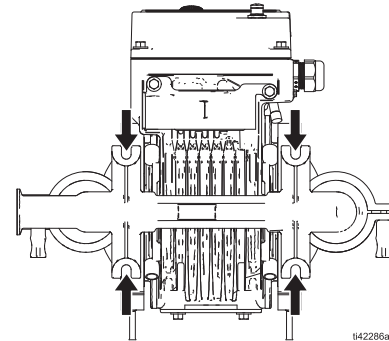

FIG. 6: Mounting Holes
The pump may be very heavy (see Technical Specifications, starting on page 67, for specific weights). Use at least two straps to evenly support the bottom of the pump, and appropriate lifting equipment or have two people lift the pump. Do not use the upper manifold or port (C) alone to lift the pump. Mount the pump to the mounting surface using fasteners through each hole of the feet. See FIG. 6.
3. For all mountings, be sure the pump is secured with fasteners through the mounting holes on the base. See FIG. 6. See **Dimensions**, starting on page 56.
To avoid pump damage, mount the pump to the mounting surface using fasteners through each hole of the feet. See FIG. 6.